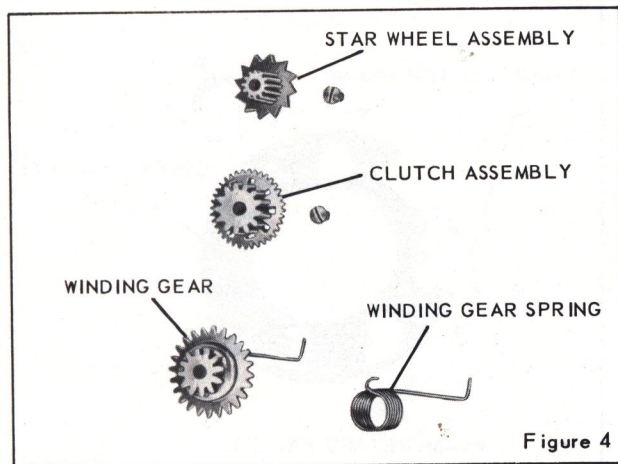

Figure 4
The CLUTCH ASSEMBLY, figure 4, is slipping.	Replace the clutch assembly.
3. Winding lever, with the sixth or seventh tooth from the left meshed with the WINDING GEAR, figure 4. Place the WINDING GEAR SPRING in tension by giving two and one-quarter strokes to the winding lever, lifting and replacing the lever after the first and second strokes. This should be the approximate setting for the flash synchronization of the shutter.
4. WINDING GEAR, figure 4, and WINDING GEAR SPRING.